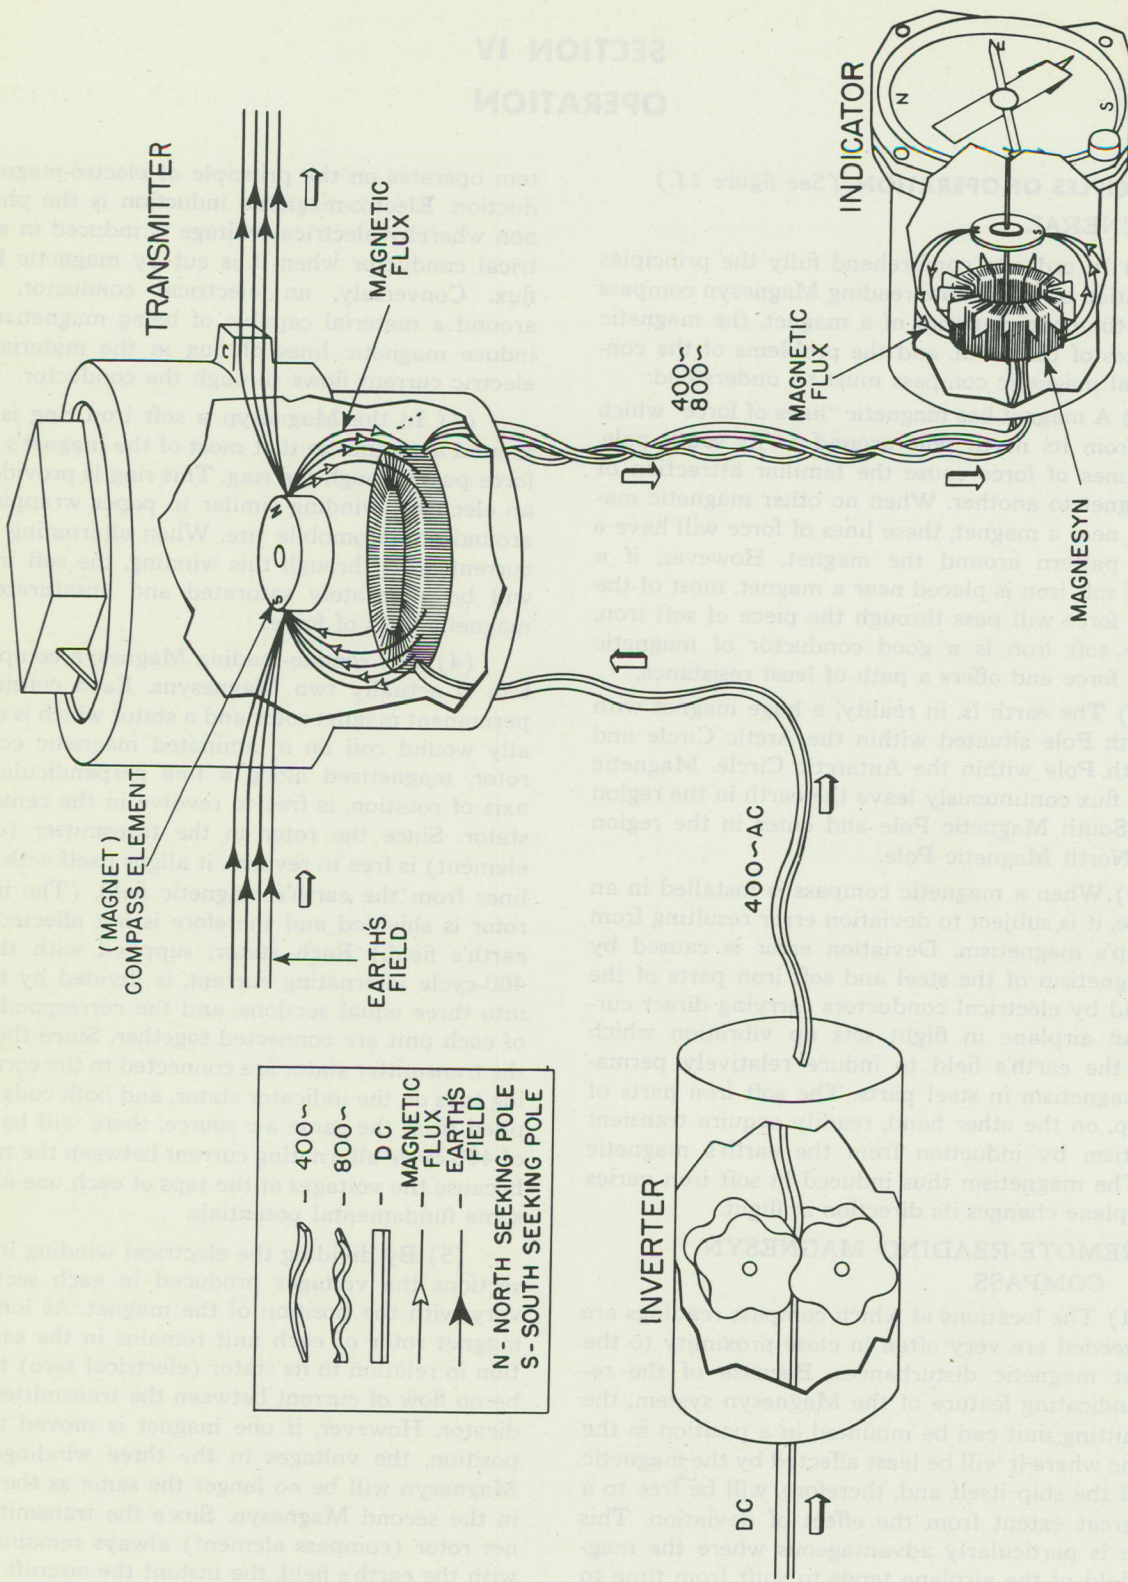

Figure 11—Schematic Operational Diagram
1. PRINCIPLES OF OPERATION. (See figure 11.)